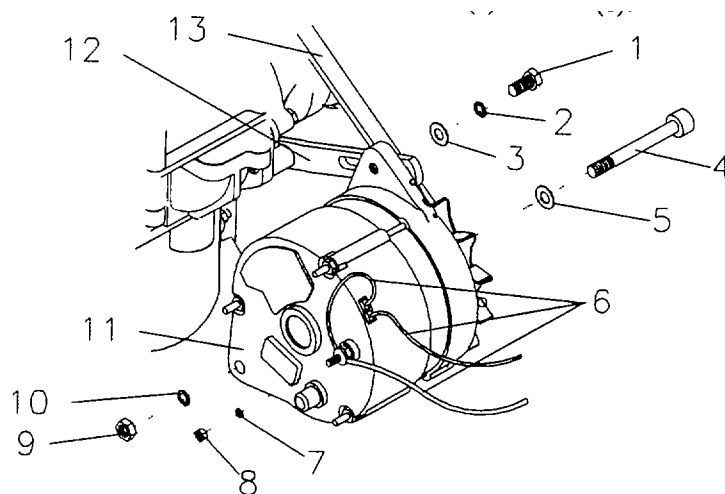

Figure 4-16. Alternator.
a. Removal. Refer to figure 4-16.
- 1) Tag and remove the three wires (6) from the alternator (11).
- 2) Remove and retain the adjusting link screw (1) flatwasher (2) lockwasher (3) Discard lockwasher.
- 3) Remove fan belt (13) from the alternator (11).
- 4) Support the alternator (11) and remove bottom nut (9) lockwasher (10) flatwasher (5) and bolt (4). Discard lockwasher.
- 5) Remove alternator (11).
b. Installation. Refer to figure 4-16.
- 1) Support the alternator (11) in position and install the bottom bolt (4) flatwasher (5) lockwasher (10) and nut (9). Hand tighten only.
- 2) Install the fan belt (13) in position and install the adjusting link screw (1), lockwasher (2) and flatwasher (3) to the slotted support arm (12). Hand tighten.
- 3) Move the alternator (11) outward by hand to apply the proper belt tension, making sure that the belt is properly positioned on the crankshaft and radiator fan pulleys. Refer to paragraph 4.21.
- 4) Install the alternator wires (6). Secure with lockwashers (7) and nut (8).